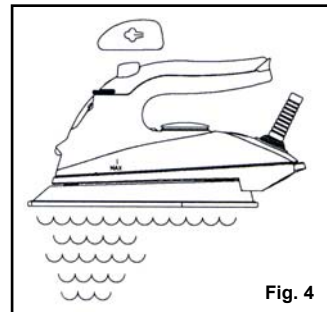

Fig. 4
3. With the iron in a horizontal position, press the blast of steam button several times to prime the pump. (Fig. 4)